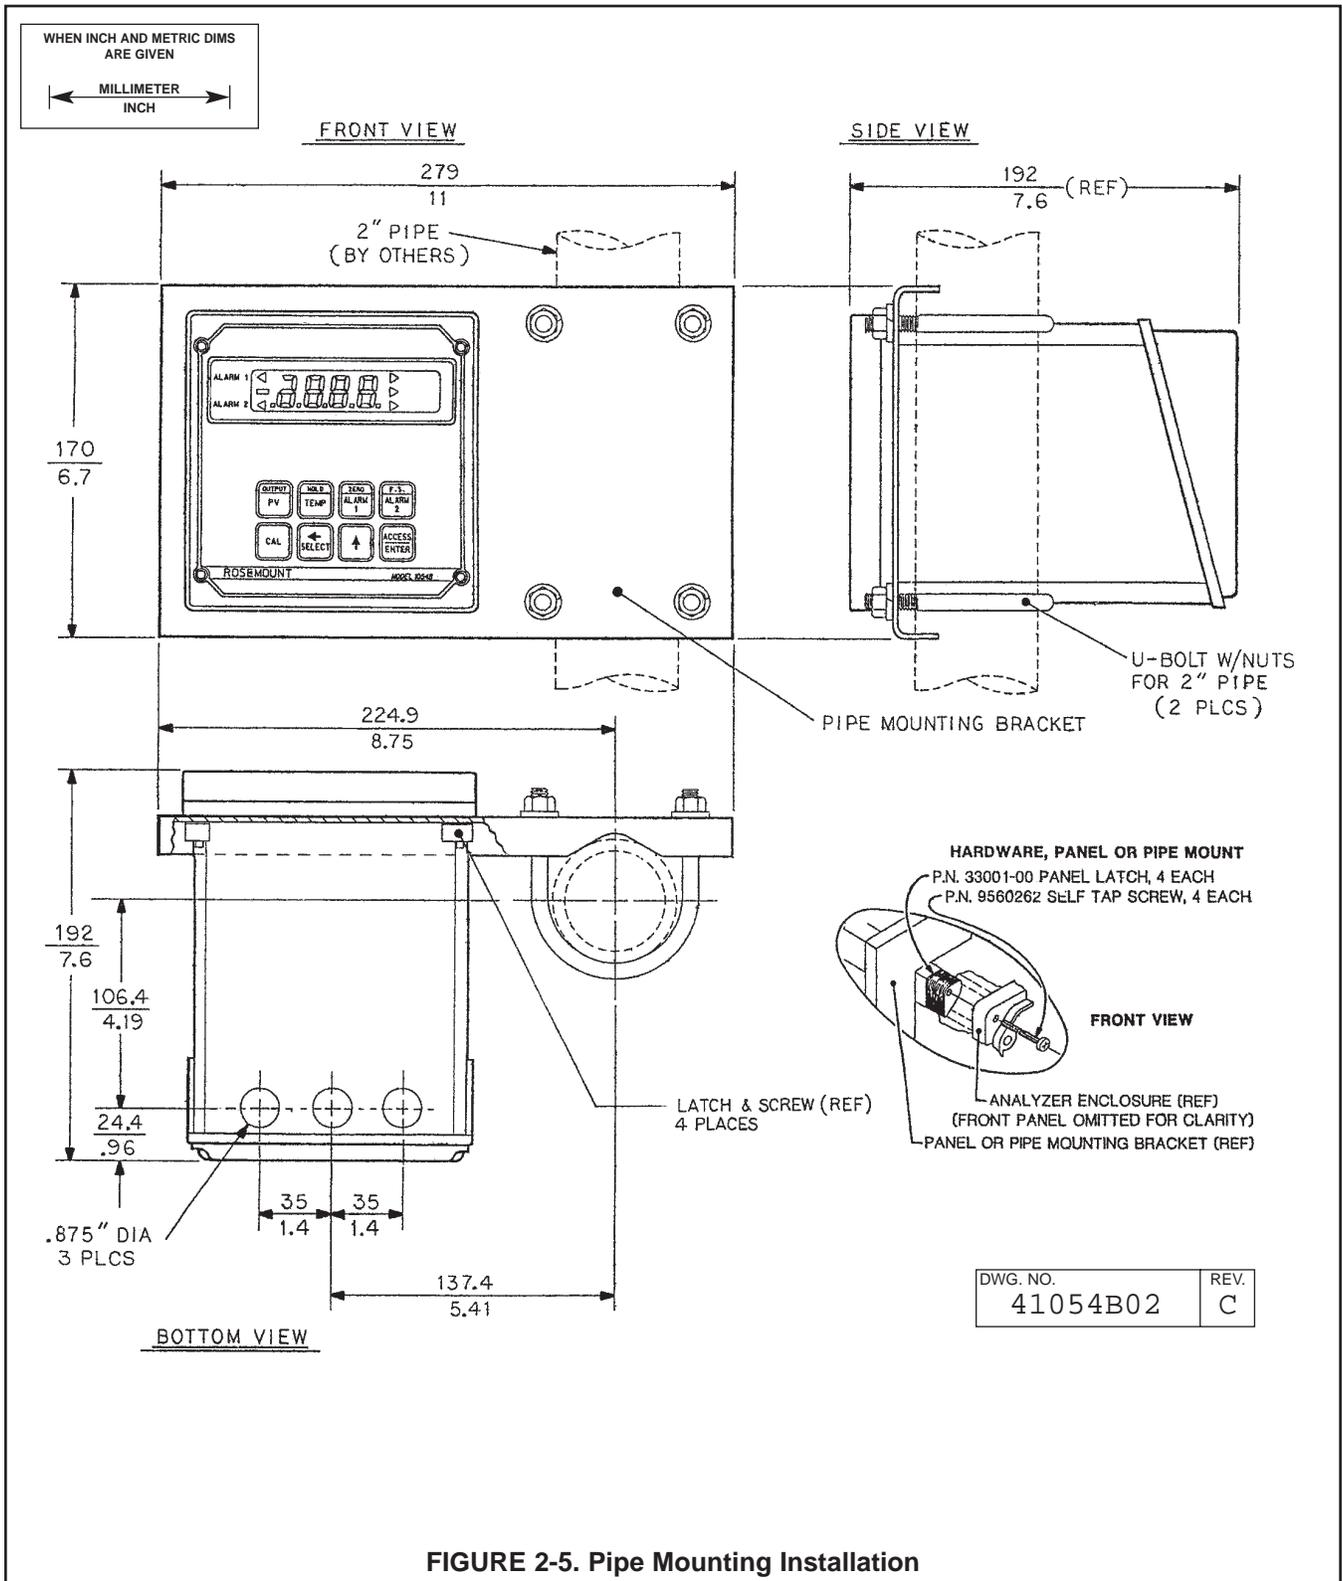

FIGURE 2-5. Pipe Mounting Installation
2.3.3 Pipe Mounting (PN 23053-00). The 2 in. pipe mounting kit includes a metal plate with a cutout for the analyzer. Refer to Section 2.3.1 for mounting the analyzer into the plate. Mounting details are shown in Figure 2-5 (below).